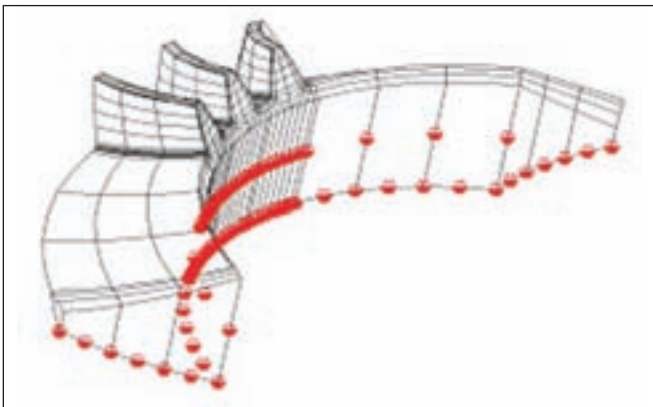
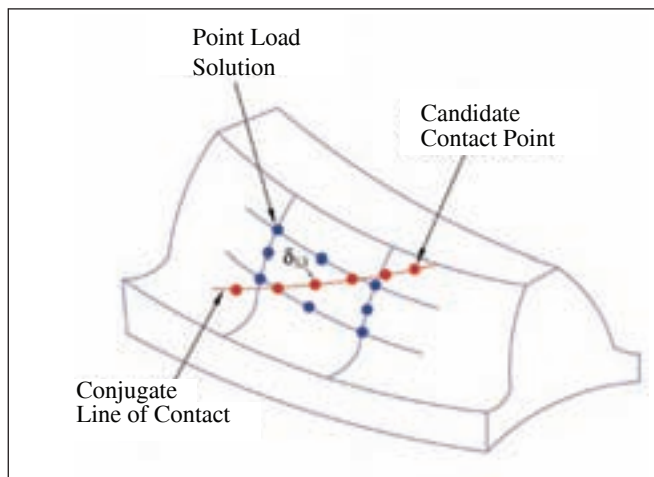

Figure 12—FEA model of the gear.
Figure 14—Interpolation scheme.
(4) The compliance matrix C consists of two major parts, (i) simulated stiffness of axle housing by parameters ΔE , ΔP , ΔG , and $\Delta \alpha$ in proportion to the applied torque and (ii) the gear and pinion compliances determined by FEA process, in which a special gap element is formulated by adding the Weber's components of deflection (Ref. 4). Application of the special gap elements allows including the deflection and deformation due to not only bending and shearing, but also the local Hertzian contact. Parameters ΔE , ΔP , ΔG , and $\Delta \alpha$ are defined as the relative axle deflections of the pinion, with respect to the gear. They are normally derived from experimental measurements of axle deflections under controlled conditions, and they can also be estimated through FEA calculation.
(5) The FEA meshing models with multiple teeth are automatically generated, using the exact tooth surface generating model for the spiral bevel and hypoid gears generated on both mechanical and CNC machines. The multiple-tooth models allow simulating load sharing among several adjacent pairs of teeth. Figures 12 and 13 show the gear and pinion FEA models with the emphasized nodes representing the boundary constraints.
(6) The total number of elements in the models can be chosen by the designer through the input interface by selecting the element numbers in tooth thickness, profile, and lengthwise directions. This feature provides flexibility for the program running on computers with different CPU levels to balance the running time and accuracy. The input torque can be applied through either pinion or gear.
(7) The displacement field of the FEA meshing nodes on the tooth surface is determined by applying a unit load on each surface node. By using this displacement field, a higher-order polynomial interpolation scheme is used to determine the primary and secondary deflections of loaded contact points, which are normally not coincident with the FEA meshing nodes on the tooth surface (Fig. 14).
(8) Solving the governing equations needs an iteration process in which the kinematical approach k can be assumed, and eventually determined together with the load distribution and gap vectors. As an LTCA result, the loaded transmission error and contact pattern identified by the gaps at each contact position can be determined. The kinematical approach k represents the loaded transmission errors.
(9) Two values of torque need to be specified in LTCA. The first value of torque is the full-load torque applied to the gear or pinion, corresponding to the torque used in evaluating the strength performance of the gear design. The second value of torque corresponds to the torque used in the deflection tests that were conducted to determine ΔE , ΔP , ΔG , and $\Delta \alpha$. In general, the two values of torque may not be the same. The torque can be gradually applied as the percentage of the full torque. As torque is applied to a gear set, the area of contact between the gear and pinion teeth changes as the